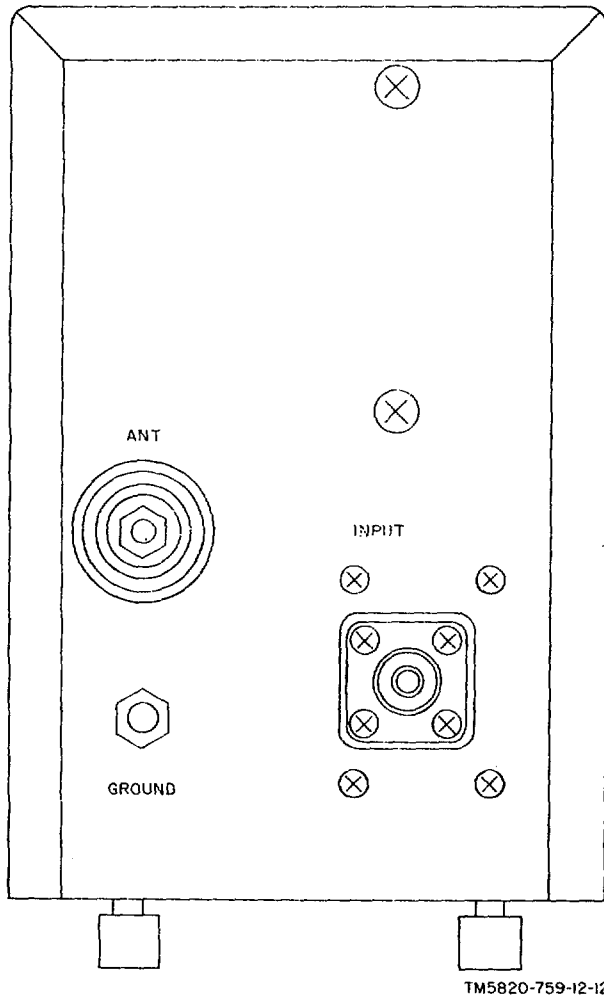

Figure 3-4. Coupler, Antenna CU-17821/ GRC-165, rear panel.
b. Antenna coupler rear Panel Connectors (fig. 3-4).